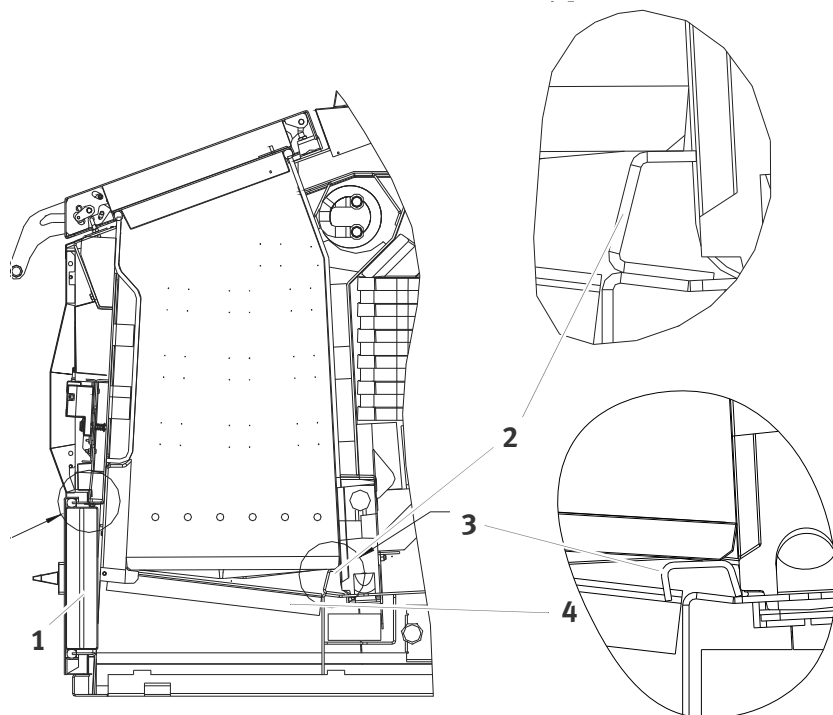

Figure 7/8 - Boiler presetting
1. Open the front ash door (1).
2. Take the flat grate element (4) out toward the front.
- ✓ The grate lifting bar can be seen in Figure 7/8 - Boiler presetting as designated with number (3).
3. Set the grate lifting bar (2) as shown in Figure 7/8 - Boiler presetting.
4. Insert the flat grate element (4).